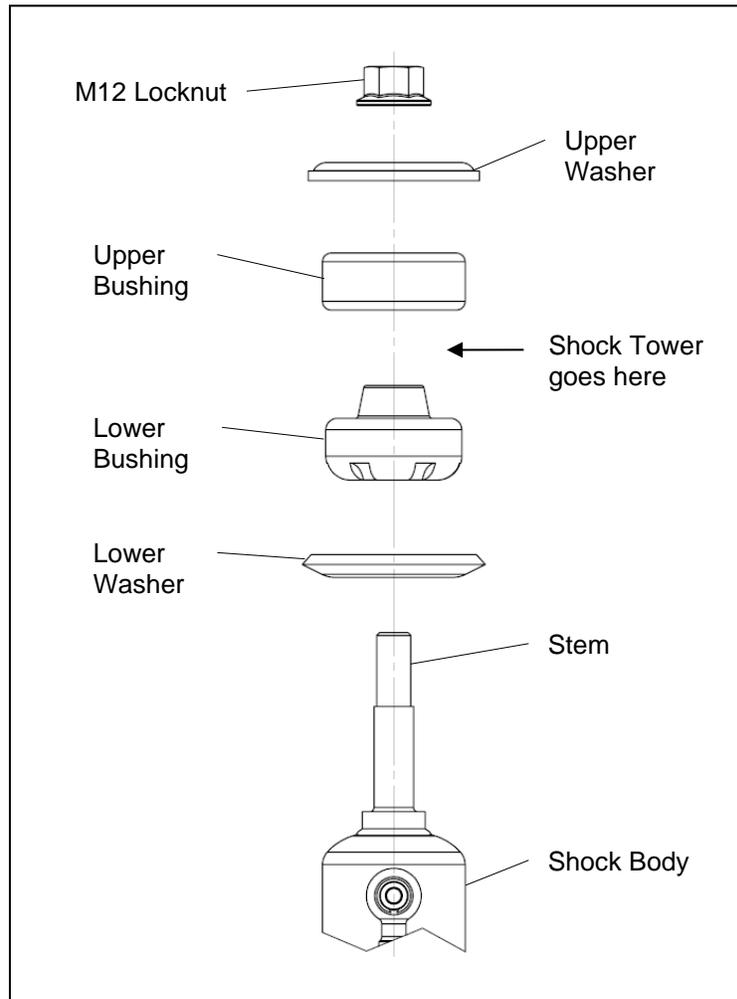

Figure 2. Shock Mount Assembly
- E. Install the complete shock/reservoir assemblies on the vehicle using the provided mount bushings and hardware (refer to Figure 2 for assembly order).